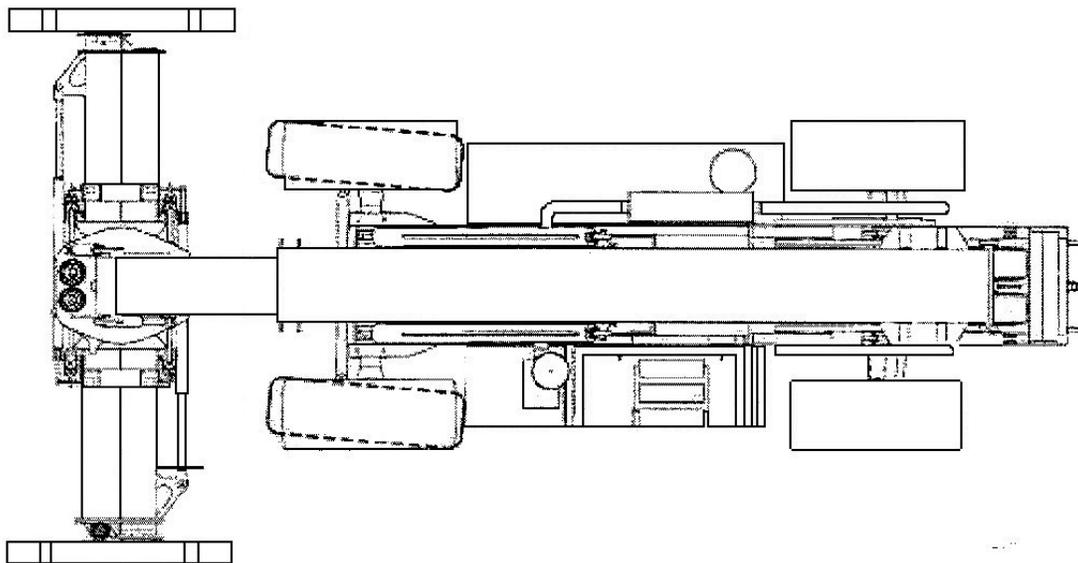

Figure 3-58
- d. Select steering mode of operation by first straightening wheels, then pressing the desired steering selection switch (see Figure 3-58, 3-59, 3-60).
- e. Move transmission control lever to desired direction, Forward (F) or Reverse (R), and select gear range.